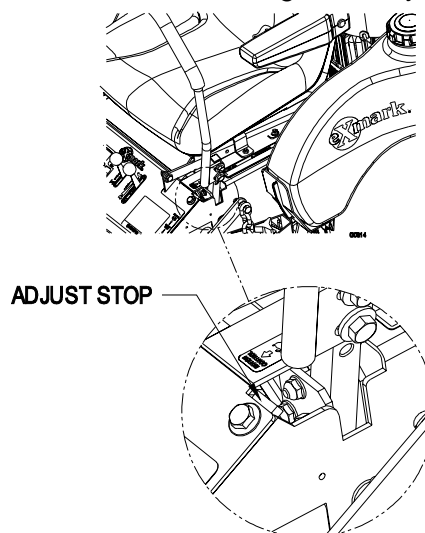

FIGURE 14
- c) If the machine turns right or left when handles are pushed forward together, adjust the stop on the side opposite the direction of turn (see Figure 14). Move the stop back until the unit drives straight. Readjust handles if necessary.